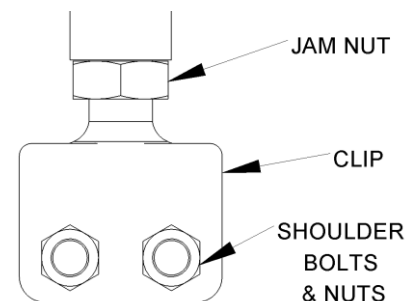

Figure 7
1. Prior to disassembly of the previously utilized clip from the gate and pneumatic actuator, measure the gap between the jam nut and the clip as shown in Figure 7. This distance will be utilized when reassembling the jam nut onto the new clip.